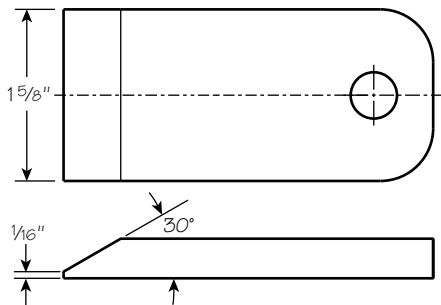

Figure 16: Beveling the edge of the lever cap.
16. Bevel the edge of the lever cap as shown in **Figure 16**.